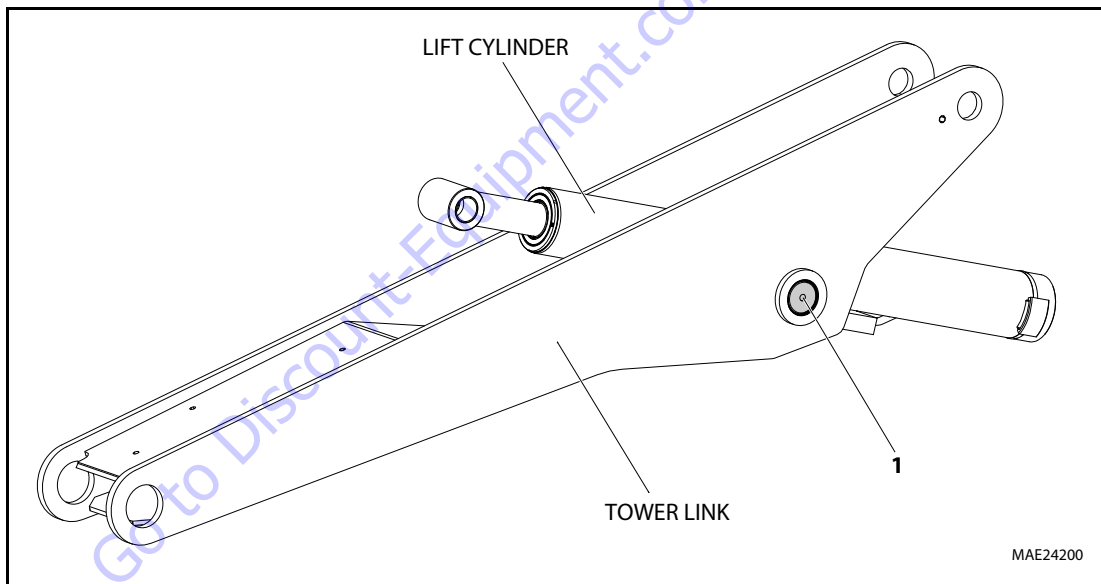

Figure 4-4. Main Boom Lift Cylinder Removal and Installation
**NOTE:** Refer to Figure 4-4., Main Boom Lift Cylinder Removal and Installation.
4. Remove trunnion pins (1), hardware and bearings (if necessary) securing boom lift cylinder to the tower link.